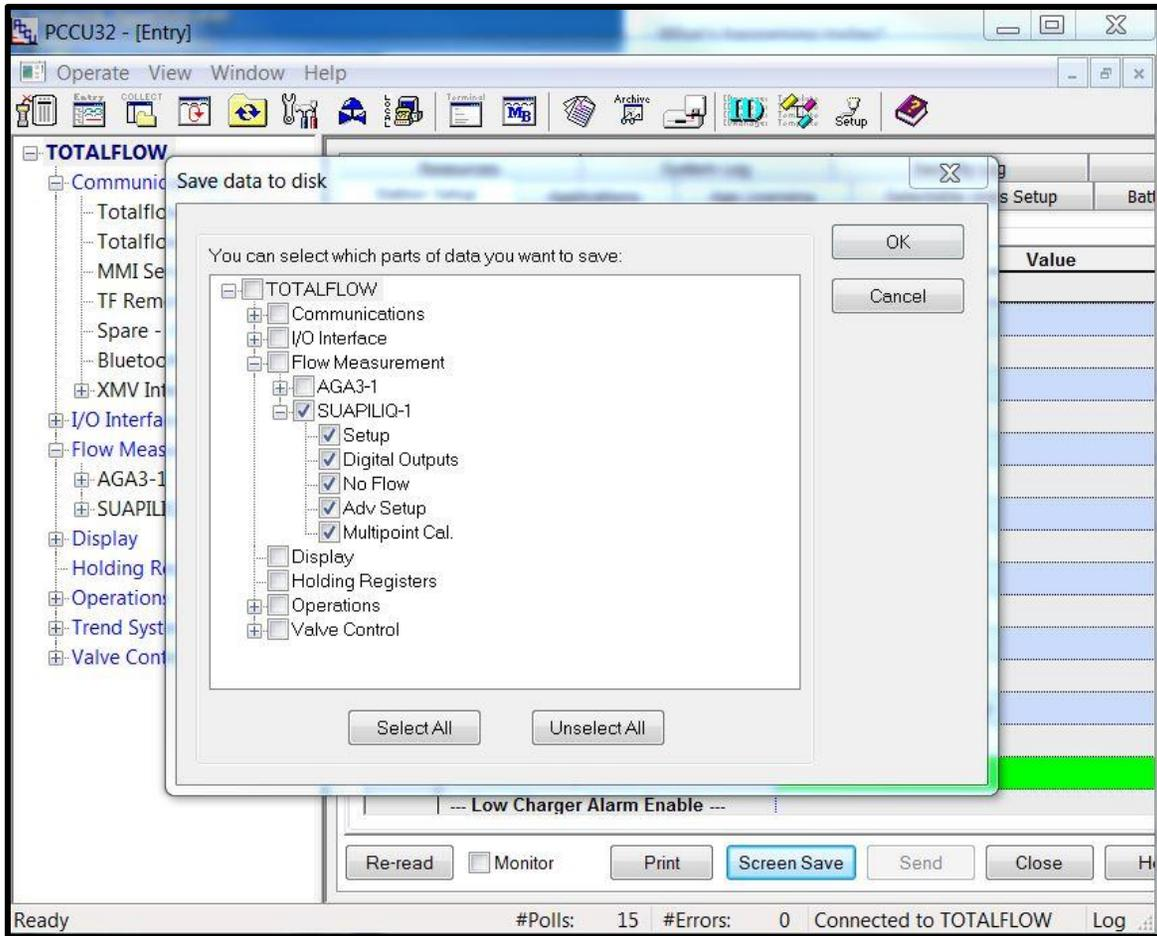

Figure 10: Save data to disk screen
3. At the Save Data to Disk screen, select each of the API Liquid application items (Figure 10).